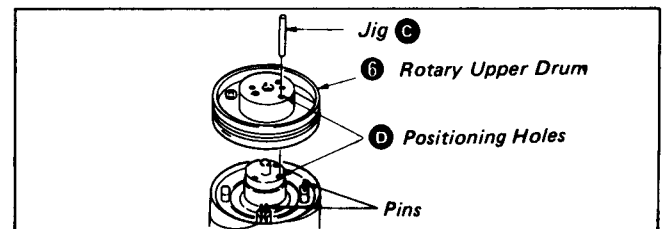

Fig. 8-49.
- 2) Insert Jig C in the positioning hole D so that the holes of the rotary upper drum ⑥ and flange coincide. Lightly insert the rotary upper drum in the drum shaft while aligning their positions. (See Fig. 8-49.) (Check that pins are projecting above the holes on the printed circuit board of the rotary upper drum. When the pins are caught, correct using tweezers, etc.)